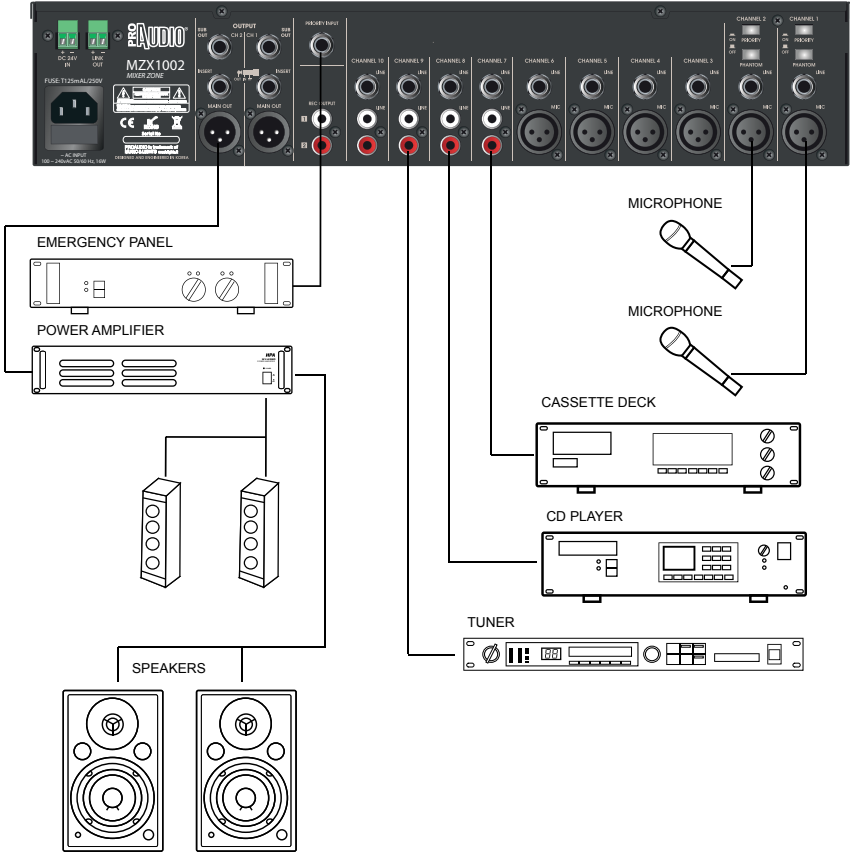

Fig.6
- 3. CHANNEL INSERT** These insert jacks allow connecting external effectors like compressor, limiter, noise filters. M&L would like to recommend using proper insert cable as below Fig.6